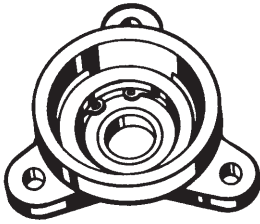

Figure 4-16
33. Next, drive a bearing (#24B) into the bearing arm, applying force only to the bearing's outer race. Insert a snap ring (#4B) into the groove provided in the bearing arm. The beveled side of the snap ring faces away from the bearing. (refer to figure 4-16)